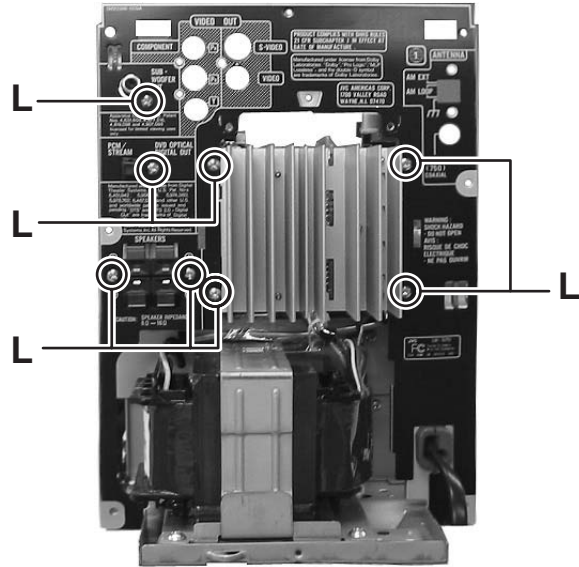

Fig.10
3.1.8 Removing the rear panel (Fig.10, 11)
- (1) Remove the eight screws L attaching the rear panel. (See Fig.10)